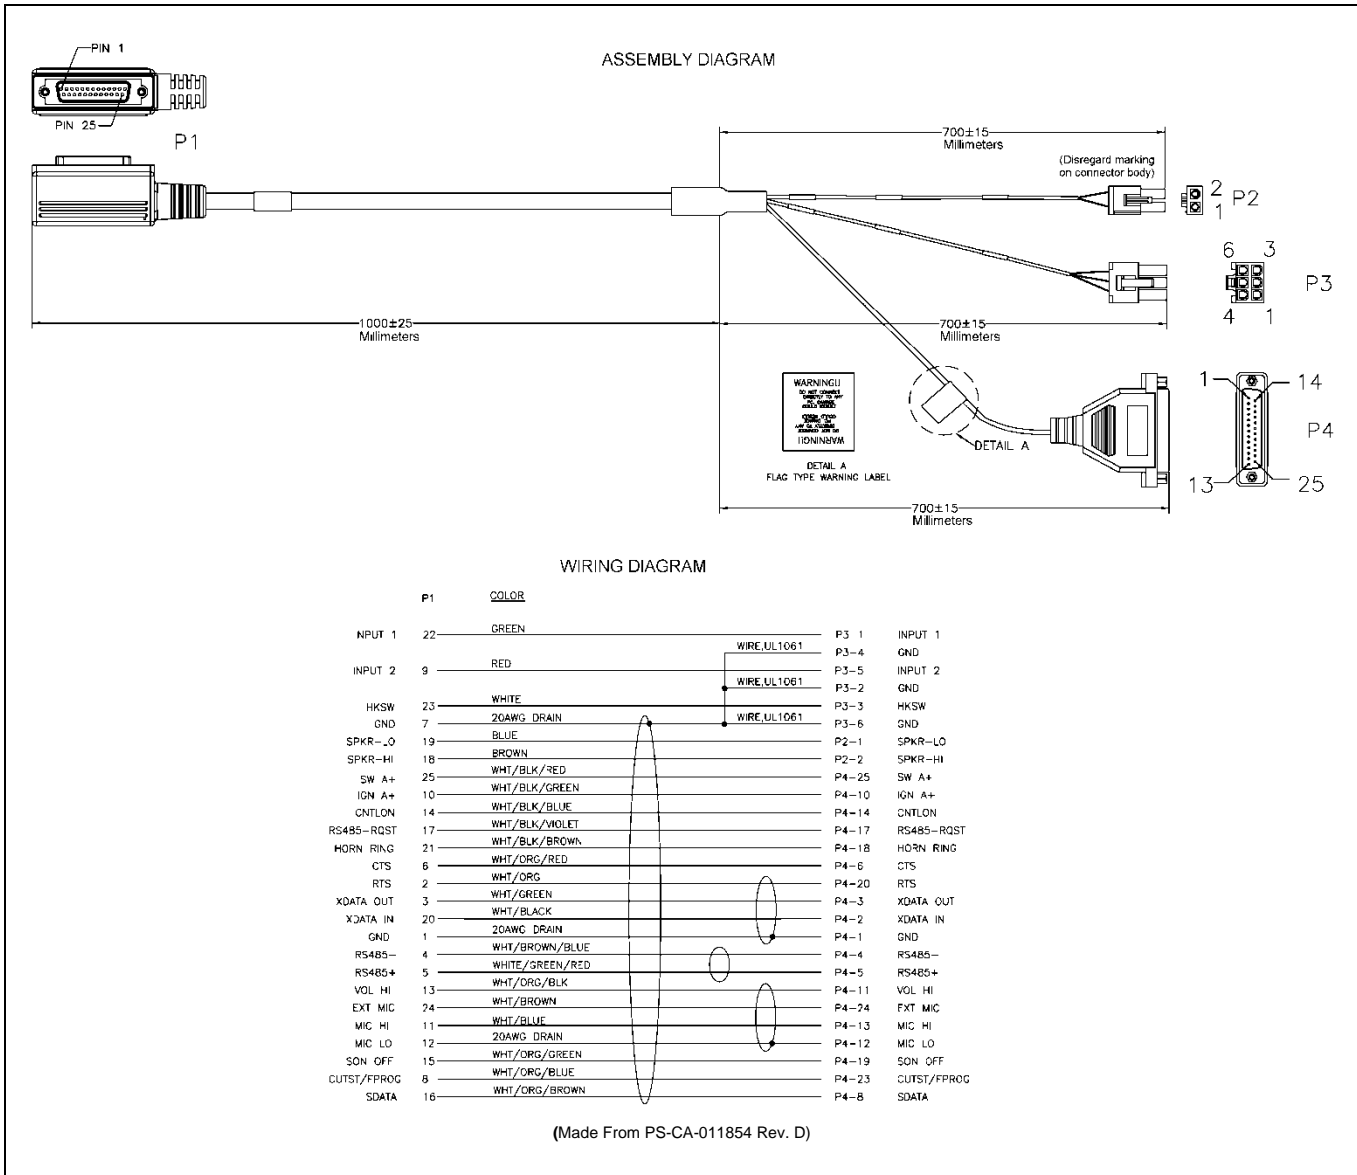

Figure 13-2: CH-721 Option Cable CA-011854-001
CH-721 Option Cable CA-011854-001 can be used to connect optional equipment to the 25-pin D-subminiature (DB-25) connector on the rear of the CH-721. This cable expands the connections available at the 25-pin connector to three (3) separate connectors. The cable's assembly and wiring diagrams are shown in Figure 13-2 below.